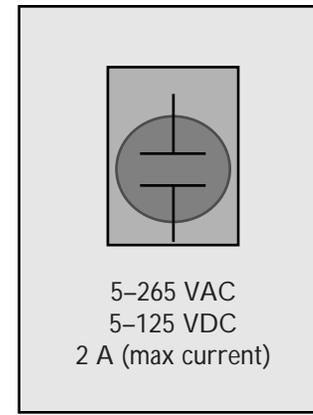

Figure 2-21. Relay output.
**Relay Outputs. Relay outputs** (see Figure 2-21) are used in applications in which the PLC's output devices require a control signal of either 5–265 VAC or 5–125 VDC. The maximum current at each output is 2 A (amps) for both AC and DC devices.